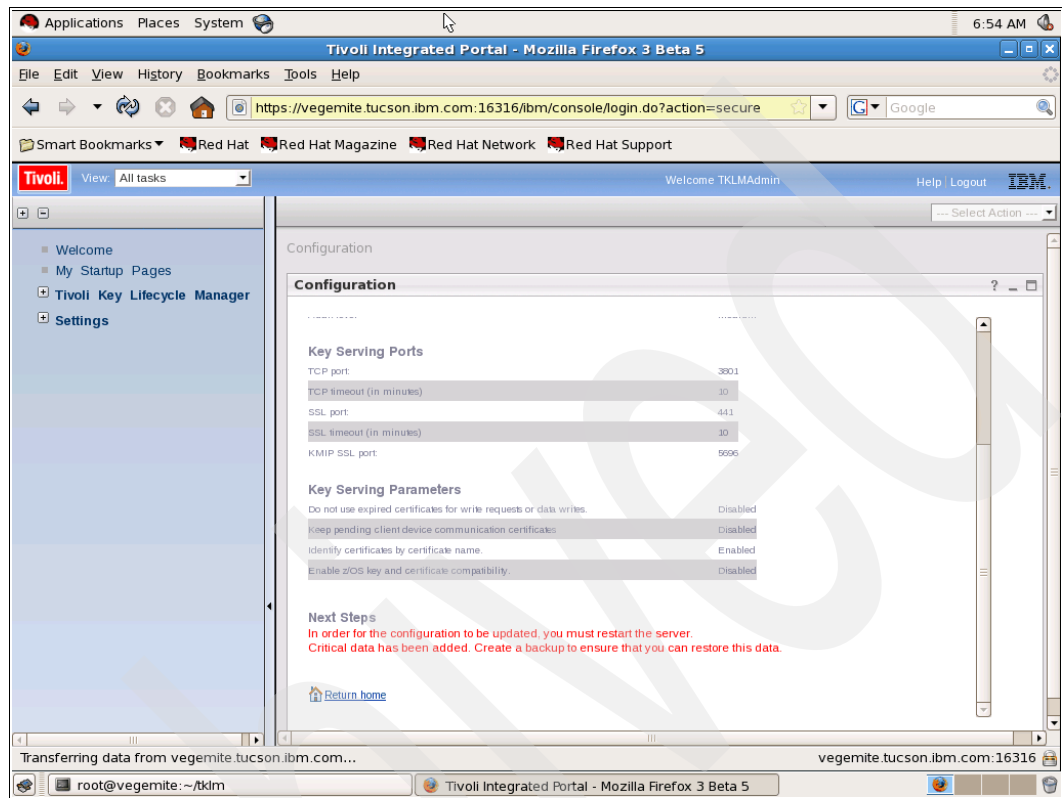

Figure 7-27 Final configuration summary
30. A final summary configuration screen is displayed, as shown in Figure 7-27. This screen also reminds you that a server restart is required to update the configuration, and that you should make a backup copy of the file.